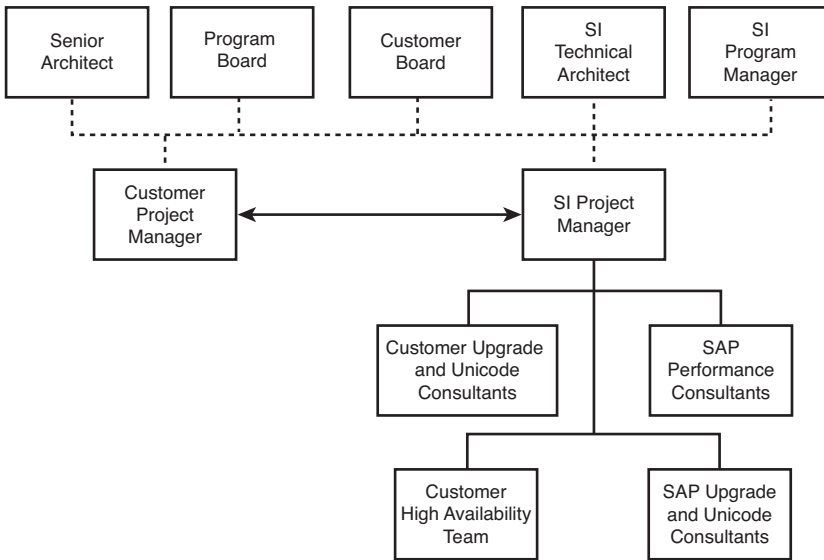

FIGURE 11.3 A time-tested SAP Unicode upgrade project structure example.
Figure 11.3 shows the relationship between a project’s systems integrator (SI), customer project manager, and various subteams shown to be especially useful in an SAP upgrade project.